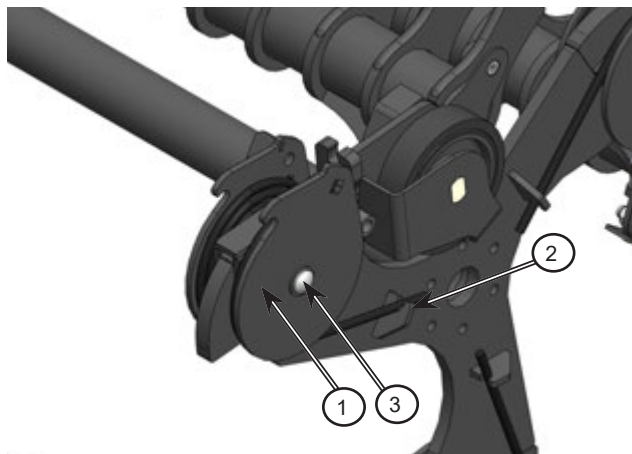

Figure 6.40: Replace cover plates and pivot bolt
2. Replace the cover plates and pivot bolt; see *Figure 6.40*.
- a. Place the cover plates (1) with new springs onto the reel arm.
- b. Fasten the long straight end of the springs into the spring tab (2) located on the reel arm.
- c. Insert the cover plate pivot bolt (3) and nut.